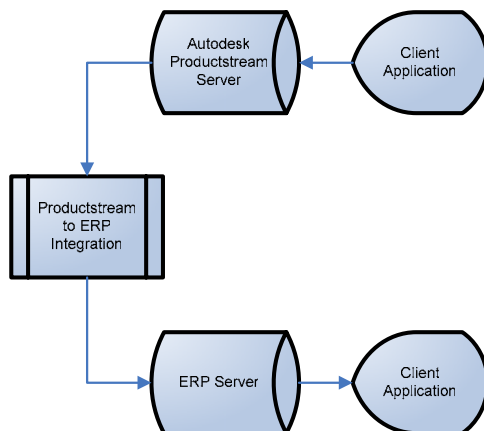

Figure 1: Design to manufacturing handoff.
5. Push information directly to the ERP system (Fig. 1), skipping the manual steps and eliminating errors